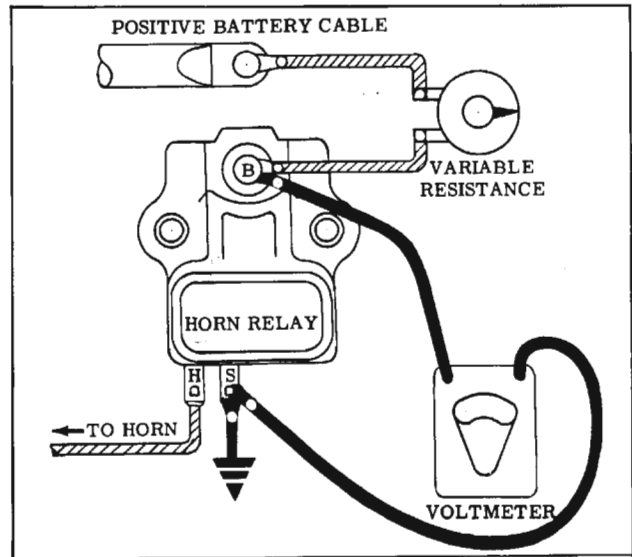

Fig. 14-149 Checking Horn Relay
2. Connect a variable resistance of at least 10 ohms in series between battery cable and "B" terminal. (Fig. 14-149)